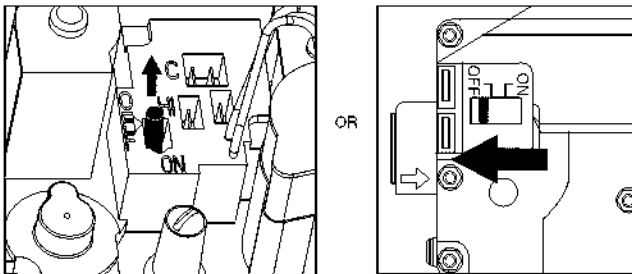

Fig. 7 - Control Switch to OFF
5. Turn the control switch on the gas control to the OFF position and wait 5 minutes. See Fig. 7. Then smell for gas, including near the floor. If you smell gas. STOP! Follow "B" on furnace label. If you don't smell gas. go to next step.
5. Turn the switch on the gas control to the OFF position. (See Fig. 7.)